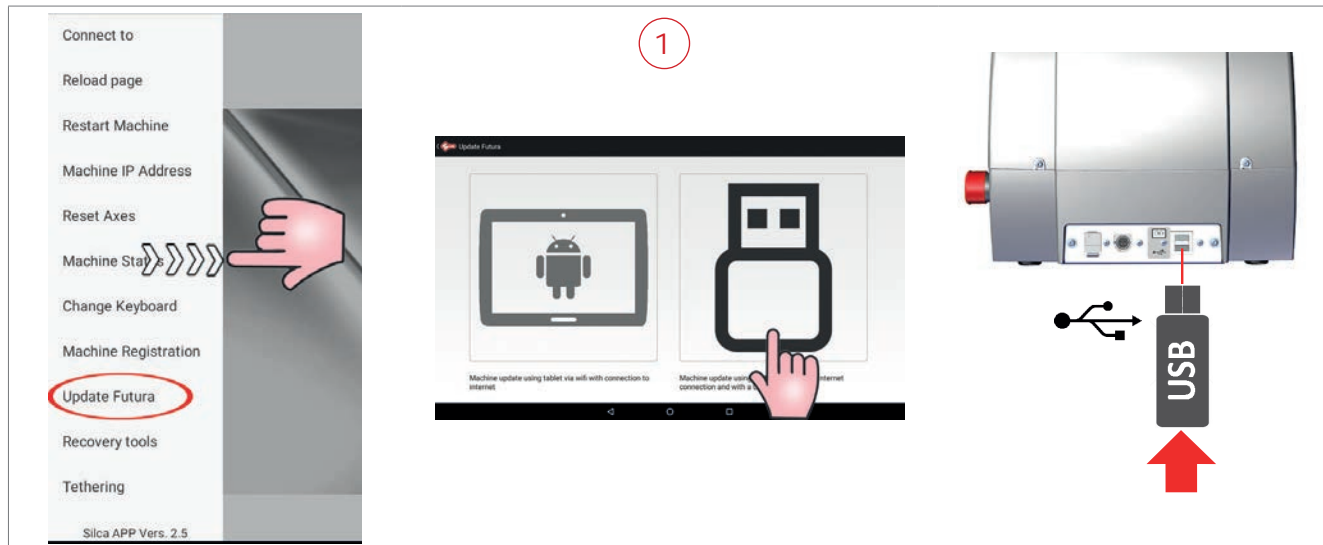

Fig. 12
- 1) Select “Machine update” from the drop-down menu and tap the USB PEN image (Fig. 12). Insert the USB PEN DRIVE into the machine and follow the instructions on the screen.